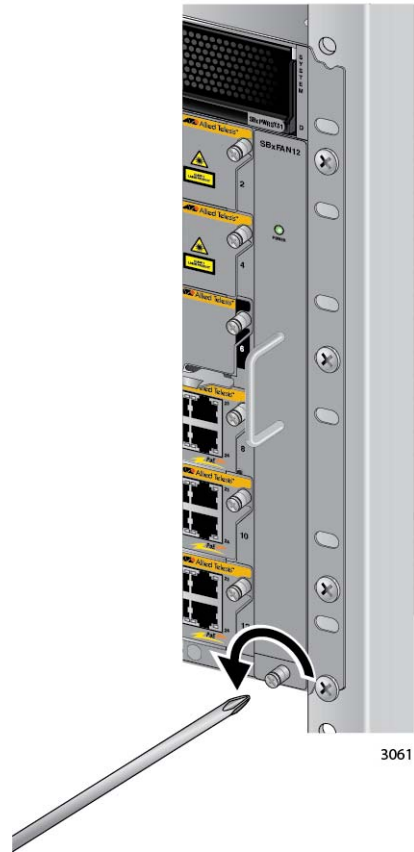

Figure 145. Loosening the Screw on the AT-SBxFAN12 Fan Module
2. Use a #2 Phillips head screwdriver to loosen the screw at the base of the fan module. Refer to Figure 145 on page 235.